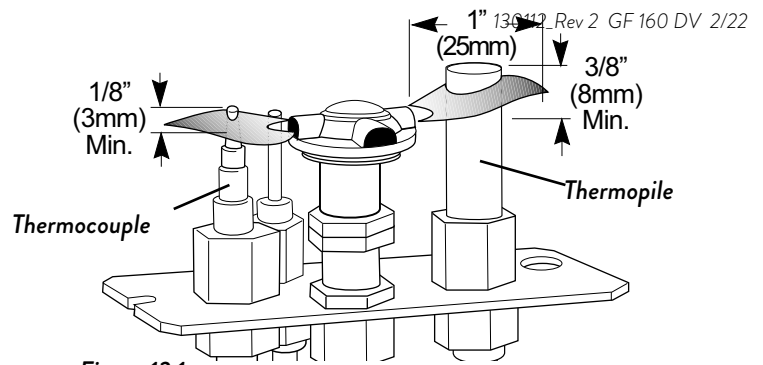

Figure 13.1. Normal pilot flame projection.
- PILOT FLAME:** You can monitor the pilot flame located behind the burner at the rear of the firebox. The pilot flame should be steady - not lifting or floating. The flame should be blue in color around the pilot hood, with traces of yellow toward the outer edges. Fig. 13.1.